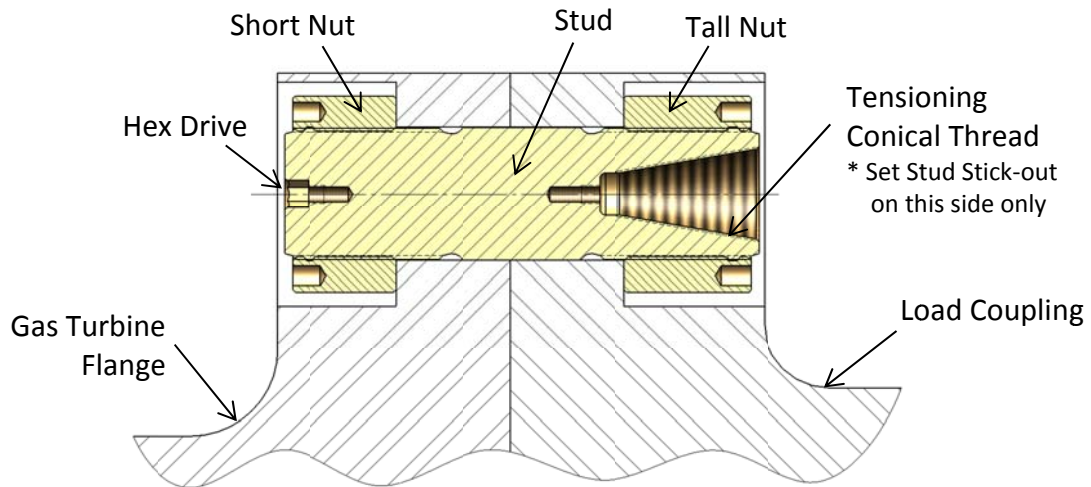

Figure 6A – Cross-section View of Gas Turbine to Load Coupling Bolted Flange Connection
4. Slide the stud and cylindrical nut assembly into the flange as shown in Figure 6A and 6B.